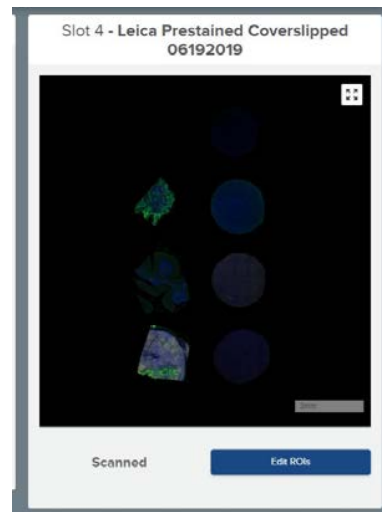

Figure 29: Control Center single slot view of Edit ROIs button activated after scanning
- During the DSP run, use the **Edit ROIs** button (see Figure 29), which will become active underneath a slide's image after the 20x scan has completed.